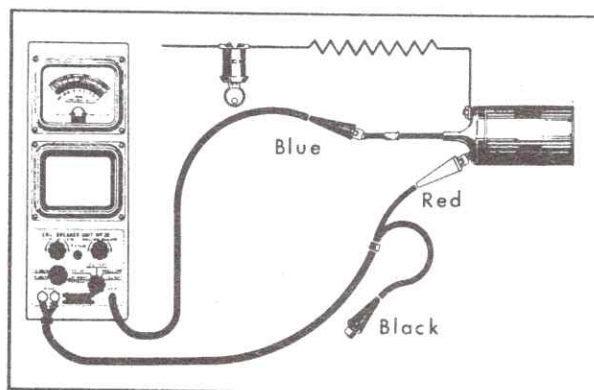

Fig. 6-29 Coil Secondary Test
11. Disconnect red and blue leads and connect leads as shown in Fig. 6-29.